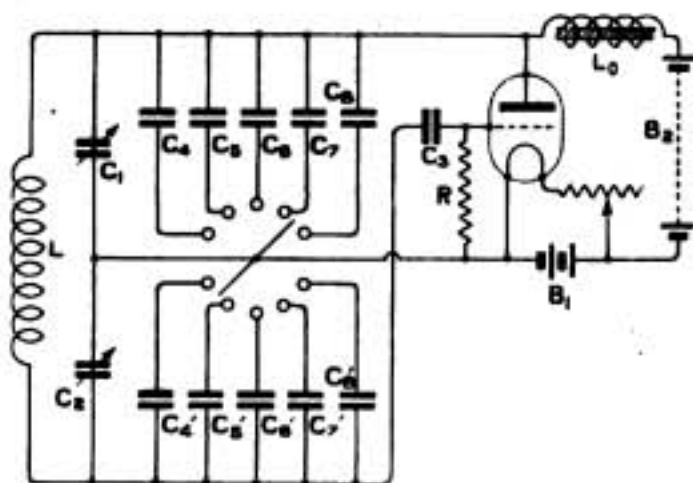
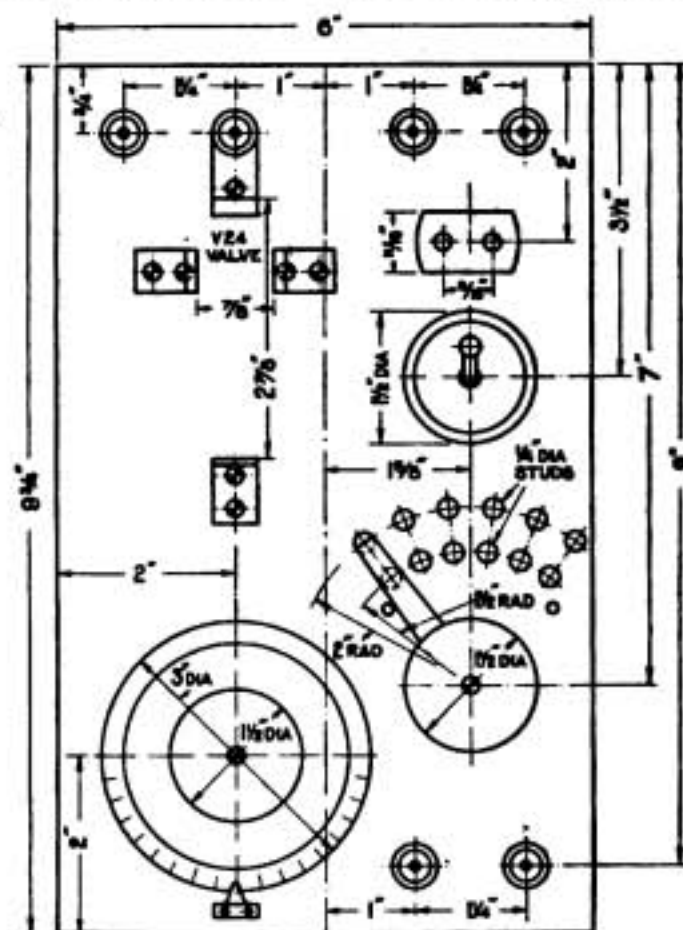
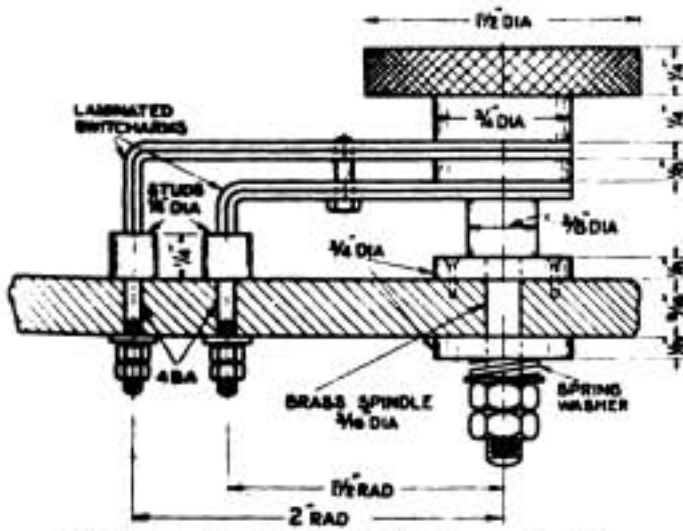
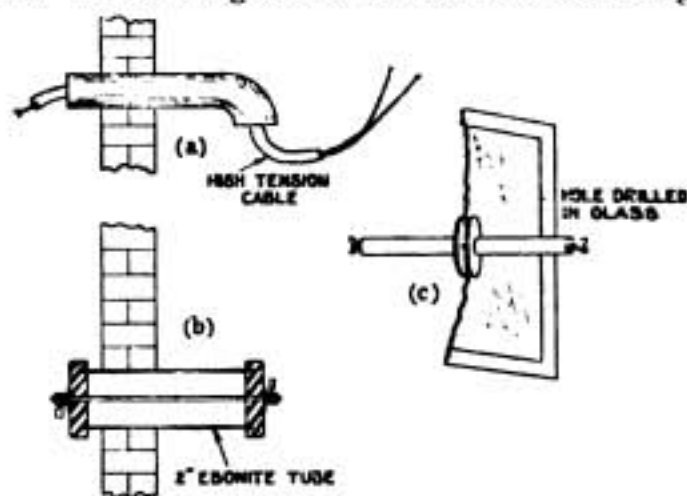

Fig. 16. Simplified Circuit Diagram of Instrument No. 4.
Fig. 17. Plan of top of Instrument No. 4.
Fig. 18. Double Contact Range Switch.
Fig. 8.
obtained by connecting fixed condensers in parallel with the two parts of the variable condenser. The general scheme then becomes as shown in Fig. 16.
The plan of the top of an instrument designed on these lines is set out in Fig. 17, giving the leading dimensions. It will be noted that the general arrangement follows on the lines of those already described [instruments (1) to (3)], and
that many of the parts are identical in detail. This remark applies to the clips forming the valve holder, to the condenser knob and scale, pointer and filament switch. A coil plug socket of the standard type should be secured in the position indicated, and no link for the telephone terminals is required (Fig. 8). The range switch is slightly different, since two sets of condensers require to be joined in circuit simultaneously. Details of a suitable switch are given in Fig. 18. It will be seen from the diagram in Fig. 16 that a double row of contacts is required. These can be arranged on the same side of the switch, as shown in Fig. 18, using a double laminated switch arm to bridge the successive pairs of contacts. The connection made to the spindle of this switch should be taken to the negative end of the valve filament, the first pair of contacts marked 1 in Fig. 17 being left free and the remaining five pairs connected to the fixed condenser in the manner indicated diagrammatically in Fig. 16. It should also be noted in connection with this diagram that no blocking condenser is required across the telephones and H.T. battery such as was used for the other designs. In fact, any such capacity, particularly across the telephones, is harmful in this arrangement and should be avoided in order to maintain the effective choking inductance of the telephones at as high a value as possible.
the aerial taut and free to rise and fall with the movement of the tree. A bucket filled with earth will serve as this counterpoise. An endeavour should be made to keep the down leads of the aerial at least 6 feet away from walls or other earthed objects. Fig. 8 (b) shows a method of bringing the aerial wire into the operating room, and consists of an ebonite tube through which runs a brass rod. Alternatively a porcelain tube, Fig. 8 (a), may be used, but the lead will require renewing after a